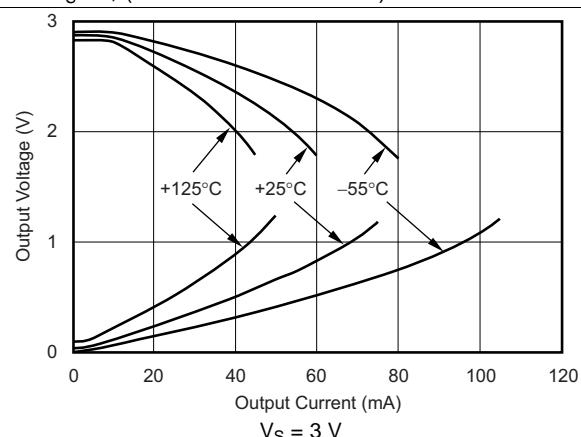
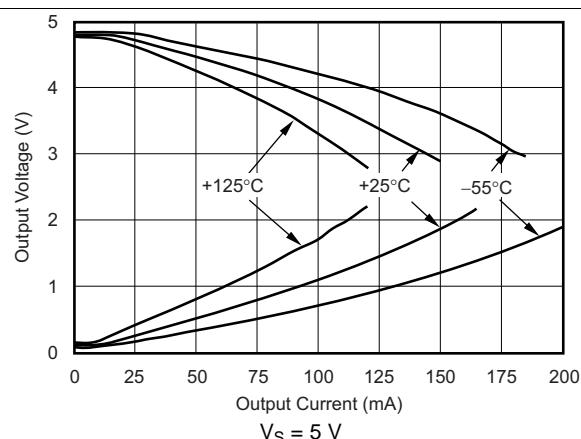
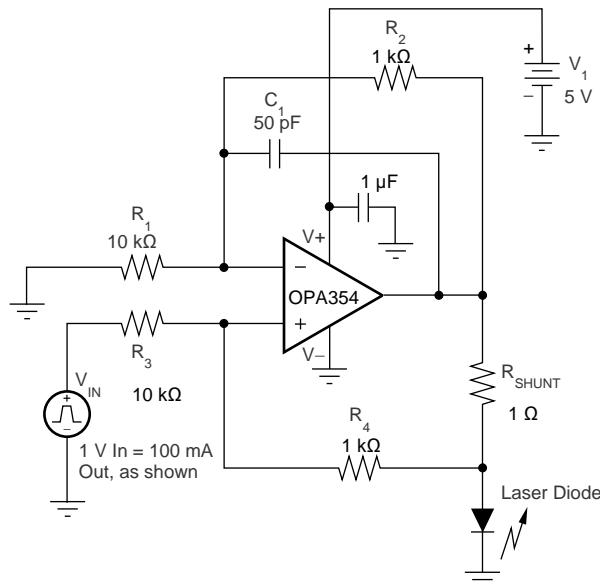
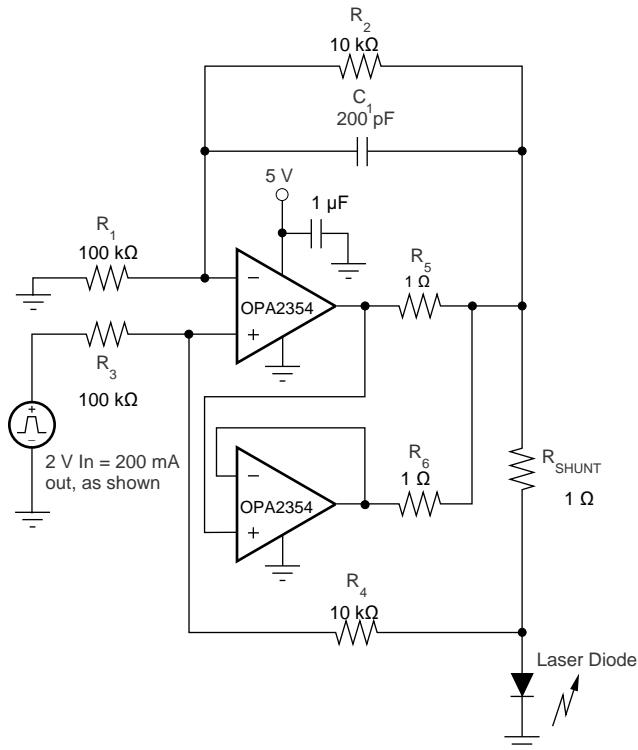

Figure 20. Output Voltage Swing vs Output Current
Figure 22. Output Voltage Swing vs Output Current
Figure 30. Laser Diode Driver
Figure 31. Parallel Operation
(1) See typical characteristic curves, *Output Voltage Swing vs Output Current* (Figure 20 and Figure 22).
(2) Specified by design.
A class AB output stage with common-source transistors achieves rail-to-rail output. For high-impedance loads (> 200 Ω), the output voltage swing is typically 100 mV from the supply rails. With 10- Ω loads, a useful output swing is achieved while maintaining high open-loop gain. See the typical characteristic curves, *Output Voltage Swing vs Output Current* (Figure 20 and Figure 22).
The OPAX354 output stage supplies a continuous output current of ± 100 mA and yet provide approximately 2.7 V of output swing on a 5-V supply, as shown in Figure 30. For maximum reliability, TI does not recommend running a continuous DC current in excess of ± 100 mA. See the typical characteristic curves, *Output Voltage Swing vs Output Current* (Figure 20 and Figure 22). For supplying continuous output currents greater than ± 100 mA, the OPAX354 may be operated in parallel, as shown in Figure 31.